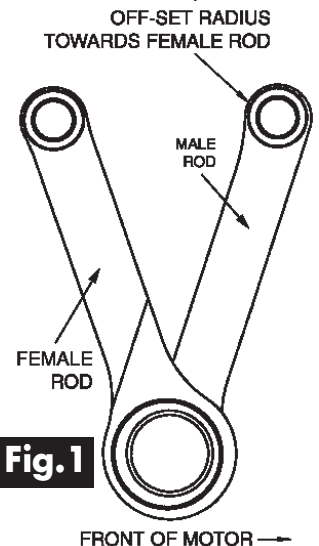

Fig.1
2. To check rod to rod clearance assemble crankpin and bearings in rods, then measure the closest possible distance between the inside of male pin bushing to the female wrist pin bushing as shown in **Fig.1**. No.4000A is 1.920" No,4000B is 2.107". These rods will have adequate clearance for up to 5 1/4" stroke.
ASSEMBLY: Rods are to be assembled with the offset in the front rod (male) to face rear rod (female). See **Fig.1**.
Note: It is the Engine builders responsibility to check and confirm the running clearances when installing any of JIMS products. To check rod to rod clearance assemble crankpin and bearings in rods, then measure the closest possible distance between the inside of male wrist pin bushing to the inside of the female wrist pin bushing as shown in **Fig.1**. No.4000A is 1.920" No.4000B is 2.107". These rods will have adequate clearance for up to 5 1/4" stroke.